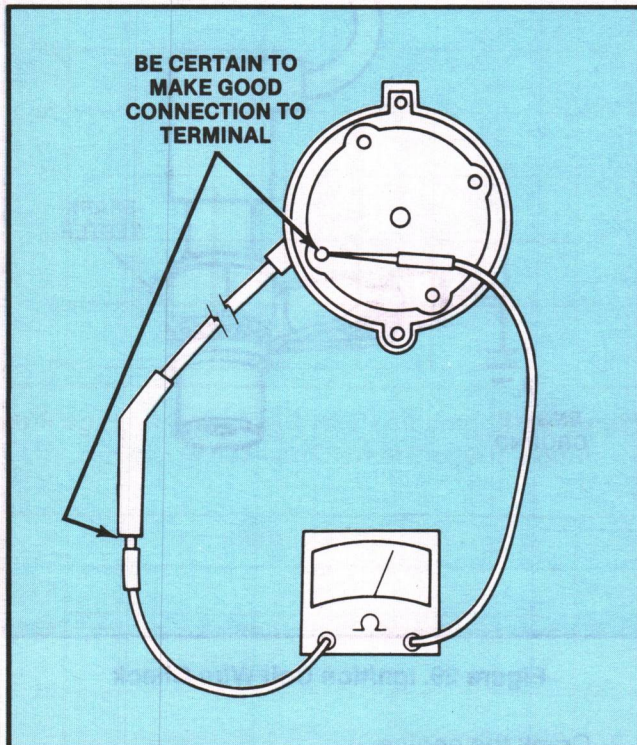

Figure 30. Checking Spark Plug Wire Resistance
4. Touch one lead of the volt/ohmmeter to the distributor cap terminal and the other lead to the spark plug terminal of the wire being checked (Fig. 30).